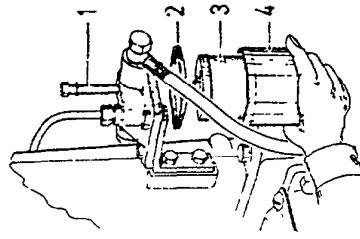

Fig. 10
3. Replace fuel filter element. Page 7, fig. 10.
Change Fuel Oil Filter (fig. 10):